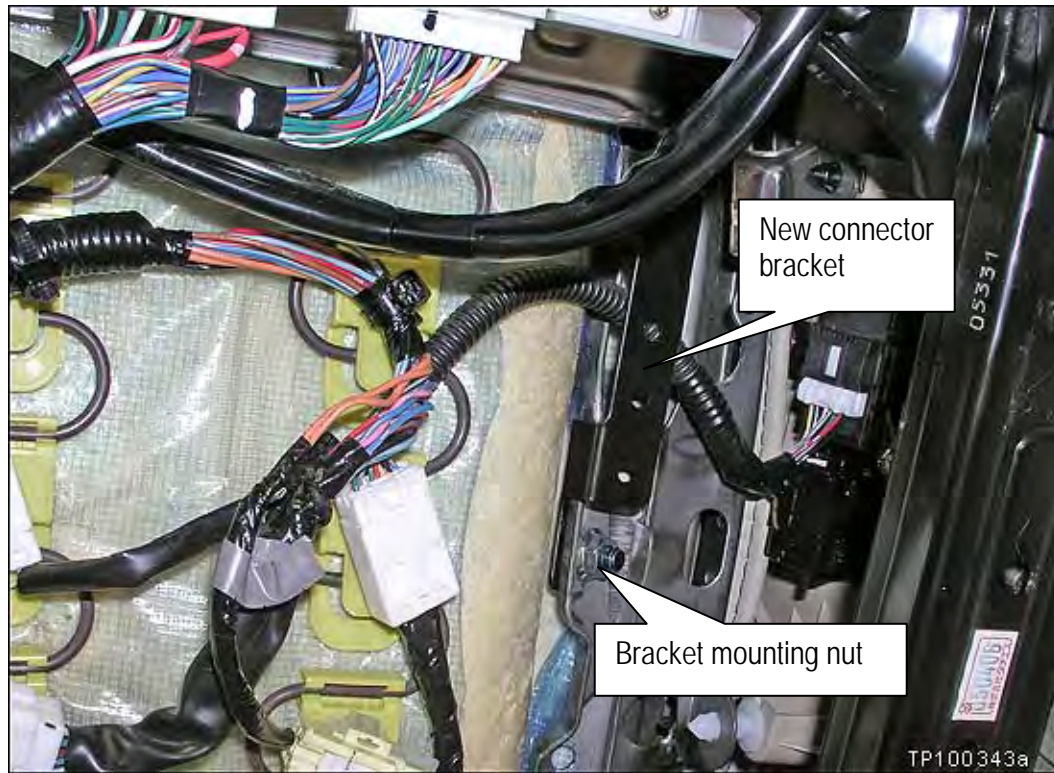

Figure 2a
3. Install the new connector bracket as shown in Figure 2a and torque the nut: